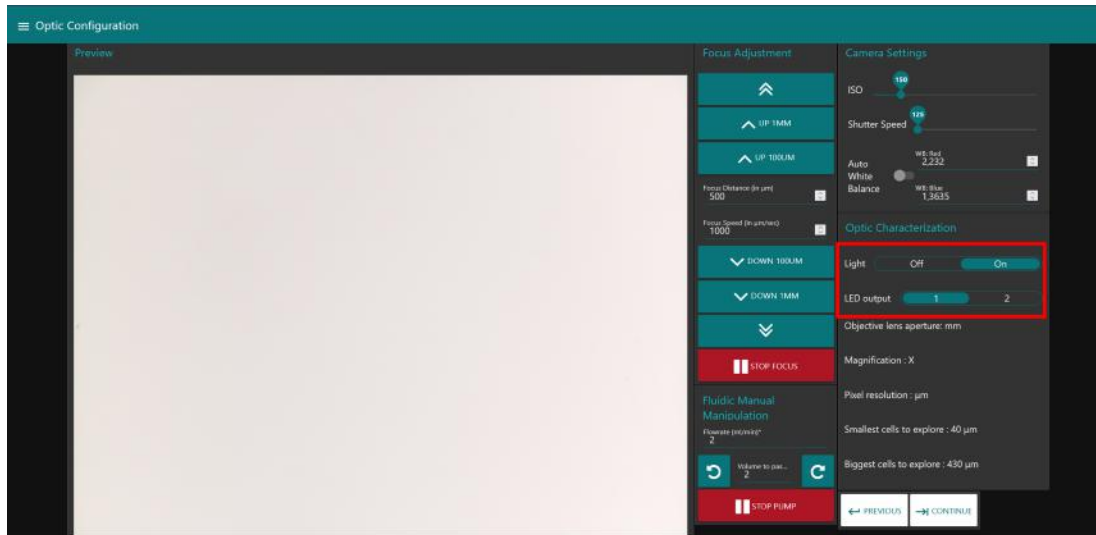

Figure 3: The red box highlights the location for turning on the LED
- Under "Optic Characterisation", **switch on the "Light"** (Fig.3). You should see the "Preview" image turning from dark to light. The Preview image could be any color so do not worry if yours show blue, red, green, etc. ; it will be adjusted later during the White Balance (WB) calibration. **You will need to switch on the light every time you use your PlanktoScope.**